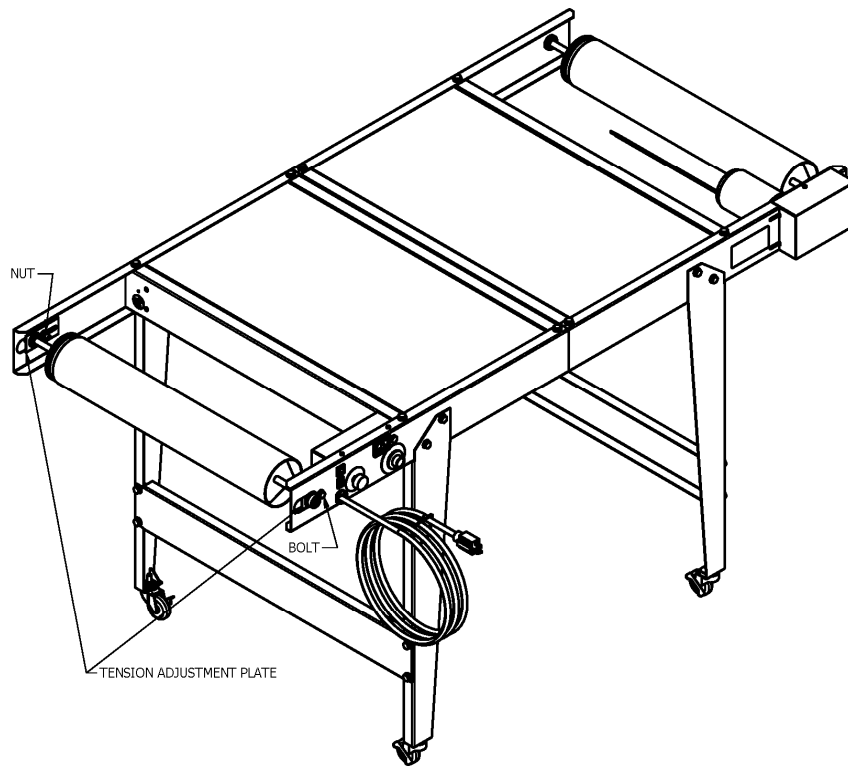

Figure 2 - Chamber Floor Assembly
1. Loosen (but do not remove) the two bolts securing the Tension Adjustment Plates (see Fig. 2) to allow the Take-Up roller drum to slide in the bearing slot.